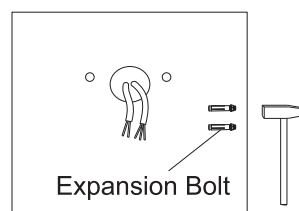

Figure 8
Step 2: Knock the expansion bolts into the wall. (Figure 8)